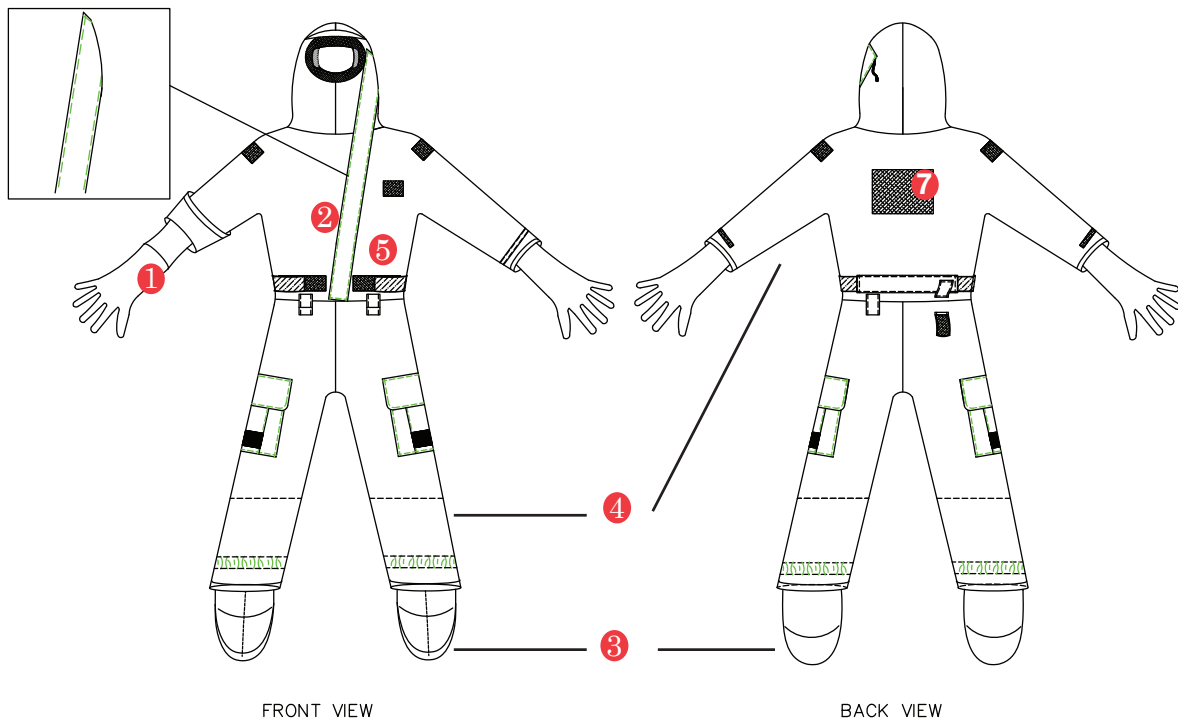

FIG. 2B
Attached Glove System: ① An inner glove and outer-glove system. Depending on which model you have, your inner glove would either be sewn on; OR be attachable via glove ring system. The inner glove provides limited chemical and biological protection to your hands and wrists. The removable outer glove is designed to provide limited protection from debris and flash fire as well as from cuts and abrasion. (See also FIG. 2B; FIG. 2C.)
- B. Glove attachment (FIG. 2B; FIG. 2C) - Examine all interface areas for signs of wear, deterioration, cracking, splitting and discoloration as these are indications of potential failure and indicate a repair is required.
- C. Number of Uses: Inspect Garment for number of uses marked on the Danger/Cleaning Label. After a maximum of five (5) launderings or ten (10) wearings, the Garment should be retired or be carefully inspected for retirement considerations.